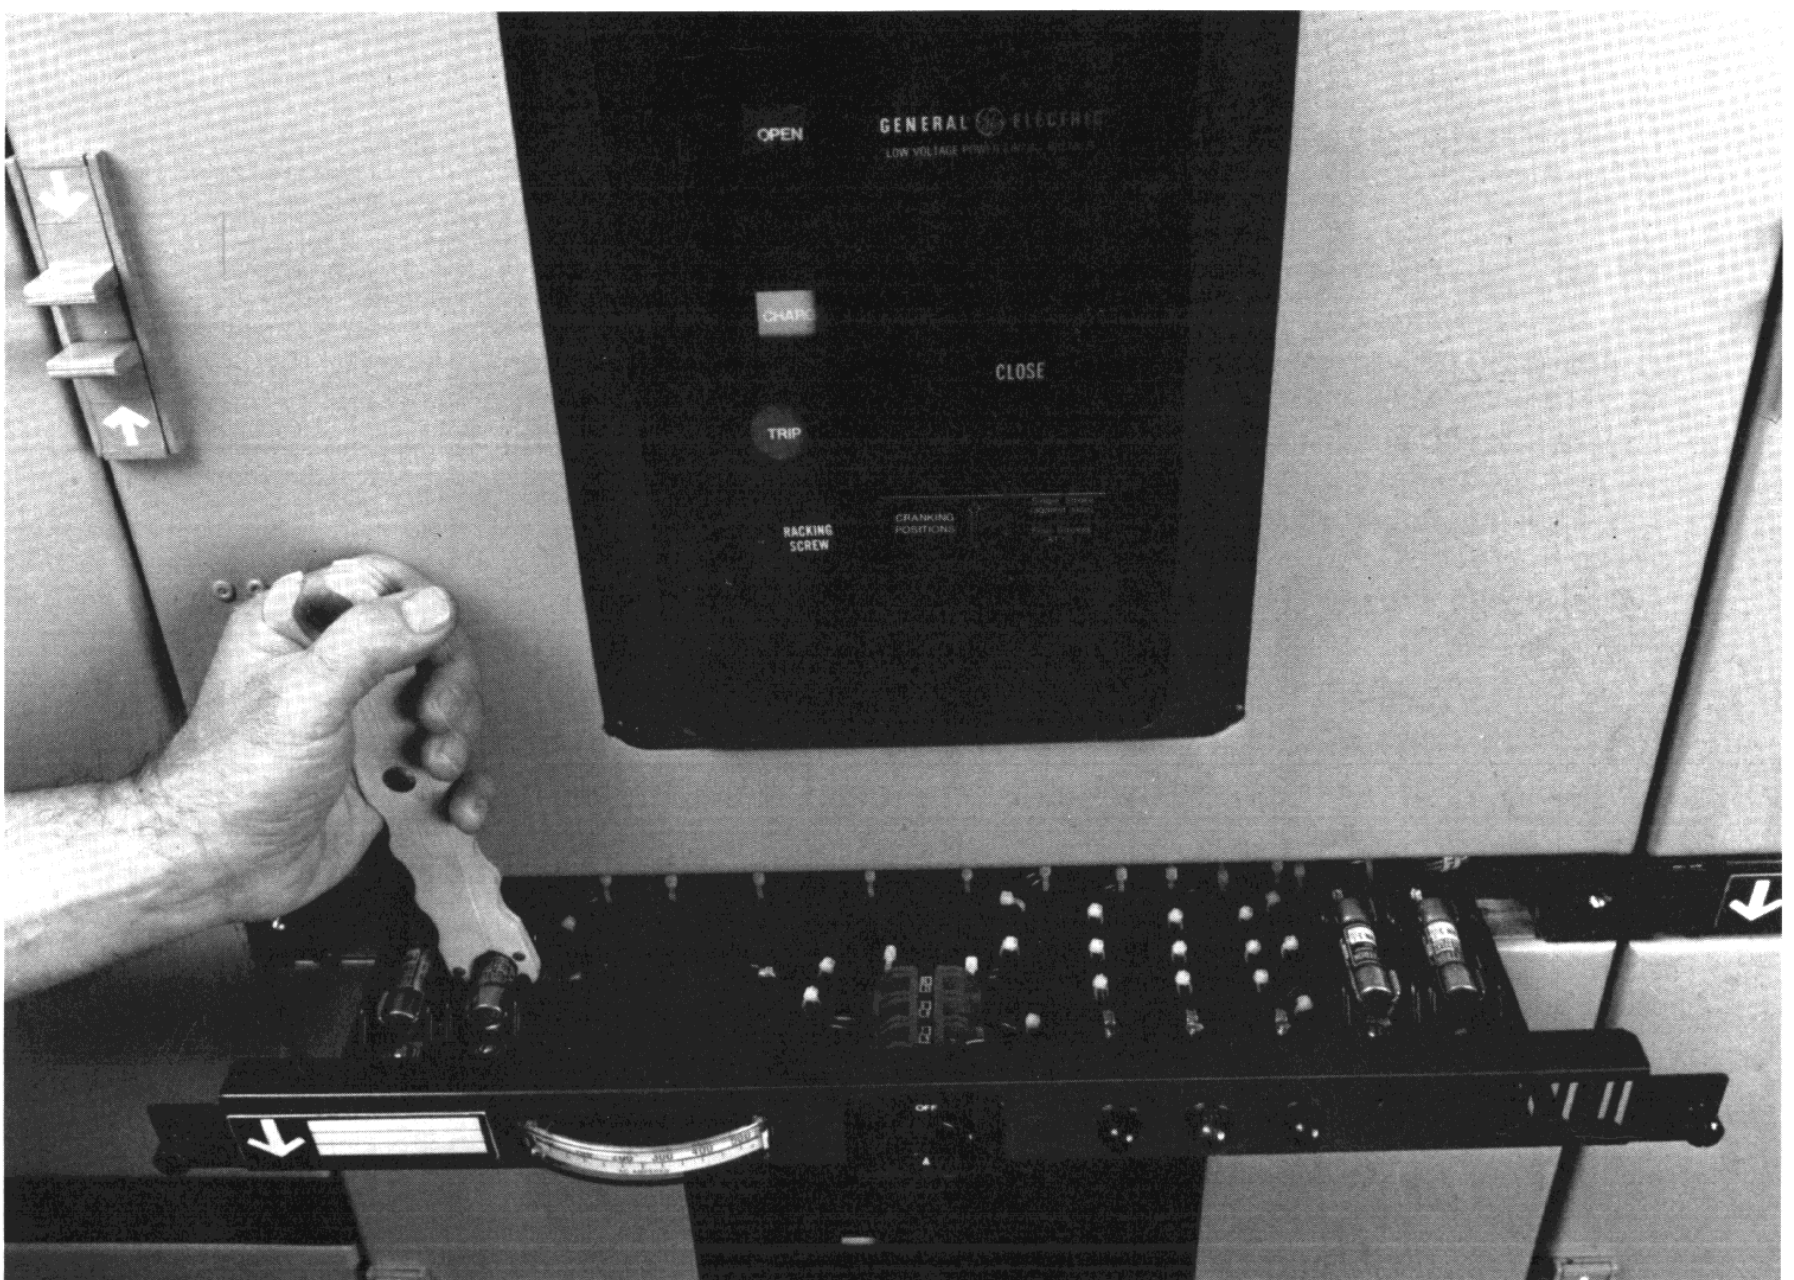

Fig. 7
- A standard slide-out instrumentation tray (figure 7) is located above each breaker compartment eliminating cross-hinge wiring. When required, horizontal-edgewise ammeter switches and indicating lights can be